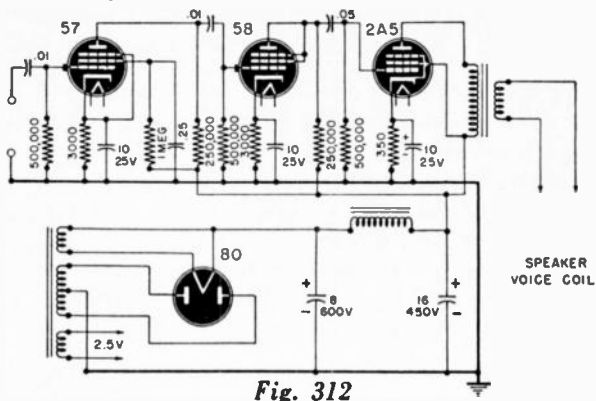

Fig. 312
A. An amplifier of good quality can be built with your apparatus. Power will be limited, however, to the amount the single 2A5 can handle without distortion (Fig. 312). A 56 would work well in place of the 58, should one be available. Your own power and output circuit beginning with the grid of the 2A5, can be used without change and you will probably find it advisable to build the amplifier in the old receiver